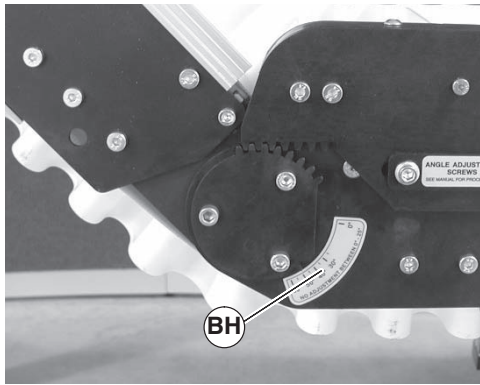

Figure 52
4. Move conveyor to desired angle as indicated by angle label (Figure 52, item BH).